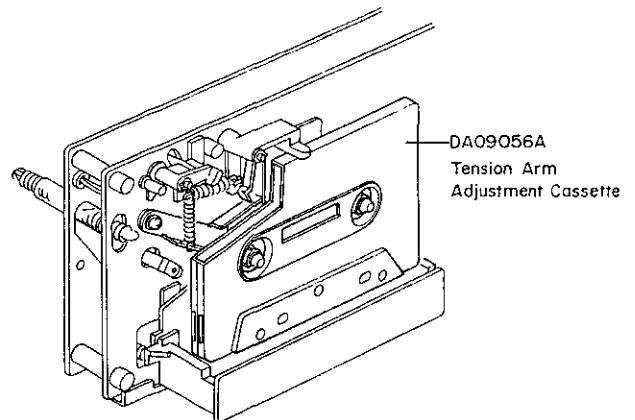
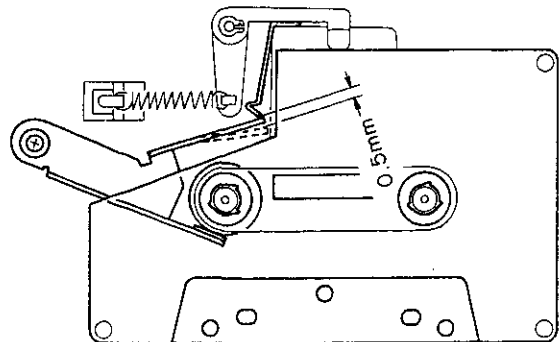

Fig. 4.13
Fig. 4.14
Refer to Figs. 4.13 – 4.16.
- (1) Load a Tension Arm Adjustment Cassette (DA09056A) in the N-682ZX referring to Fig. 4.13.
- (2) Set the N-682ZX in Play mode.
- (3) Bend the Back Tension Arm with pliers so that the gap between the Cassette Holding Spring assembled on the Head Base Ass'y and the Back Tension Arm becomes 0.5 mm as shown in Fig. 4.14. Do not bend the top of the Back Tension Arm.
- (4) Set the N-682ZX in Stop mode, and remove the Tension Arm Adjustment Cassette (DA09056A), then set the N-682ZX in Cue mode.